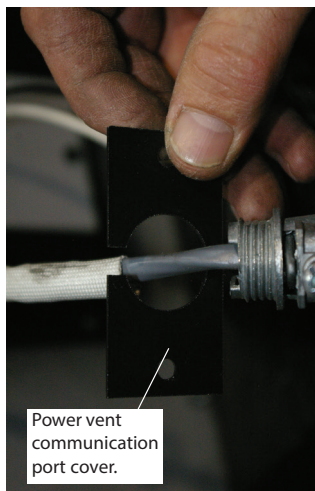

Figure 12c. Remove Exterior Access Cover.
**Step 3.** Remove the Power Vent communication port cover from cabinet, (as supplied) **Figure 12c**. (*Philips head screwdriver required*).